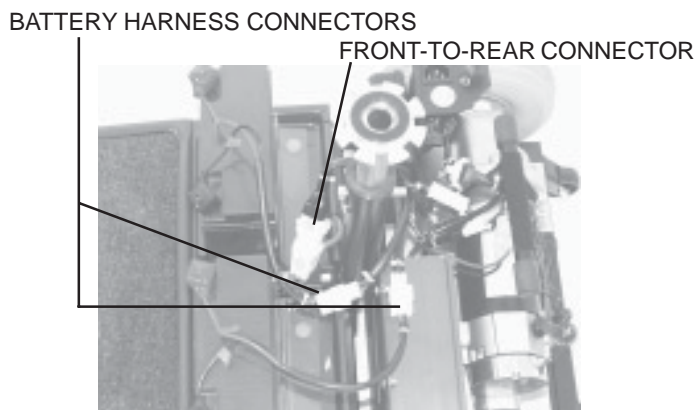

Figure 15. Battery Harness Connectors/
5. Unplug both battery harness connectors. See figure 15.
7. Unplug the large, white, 9-pin front-to-rear connector that connects the front control console assembly harness to the electronic controller assembly harness. See figure 15.